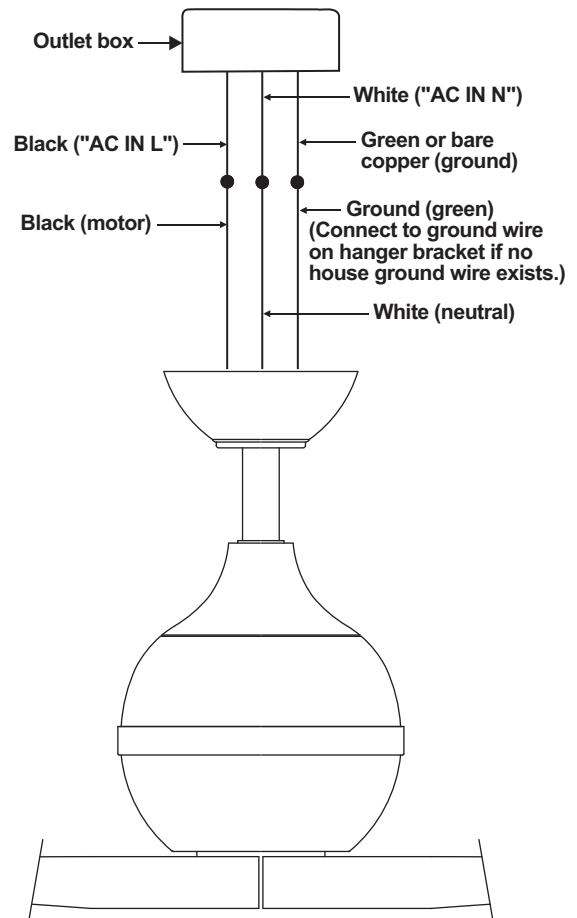

Figure 10
1. Connect the fan supply (black) wire to the black household supply wire as shown in Figure 10.
2. Connect the neutral fan (white) wire to the white neutral household wire. (Fig. 10)